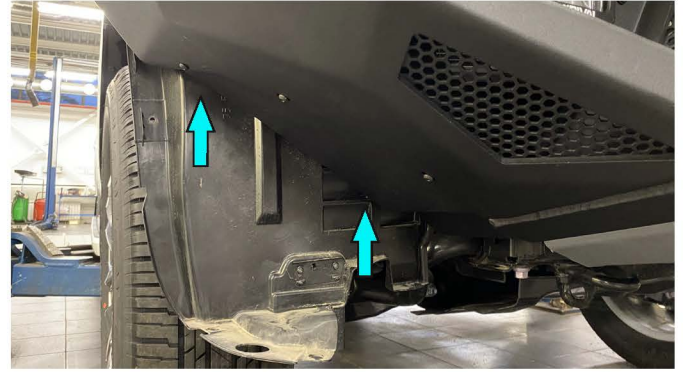

Fig.50
50. Mark and drill 2 holes in plastic fender according with holes in flap on each side of the vehicle. Fix flaps and fenders using screw M6x20, washer 6 (item I, N) (fig. 50).